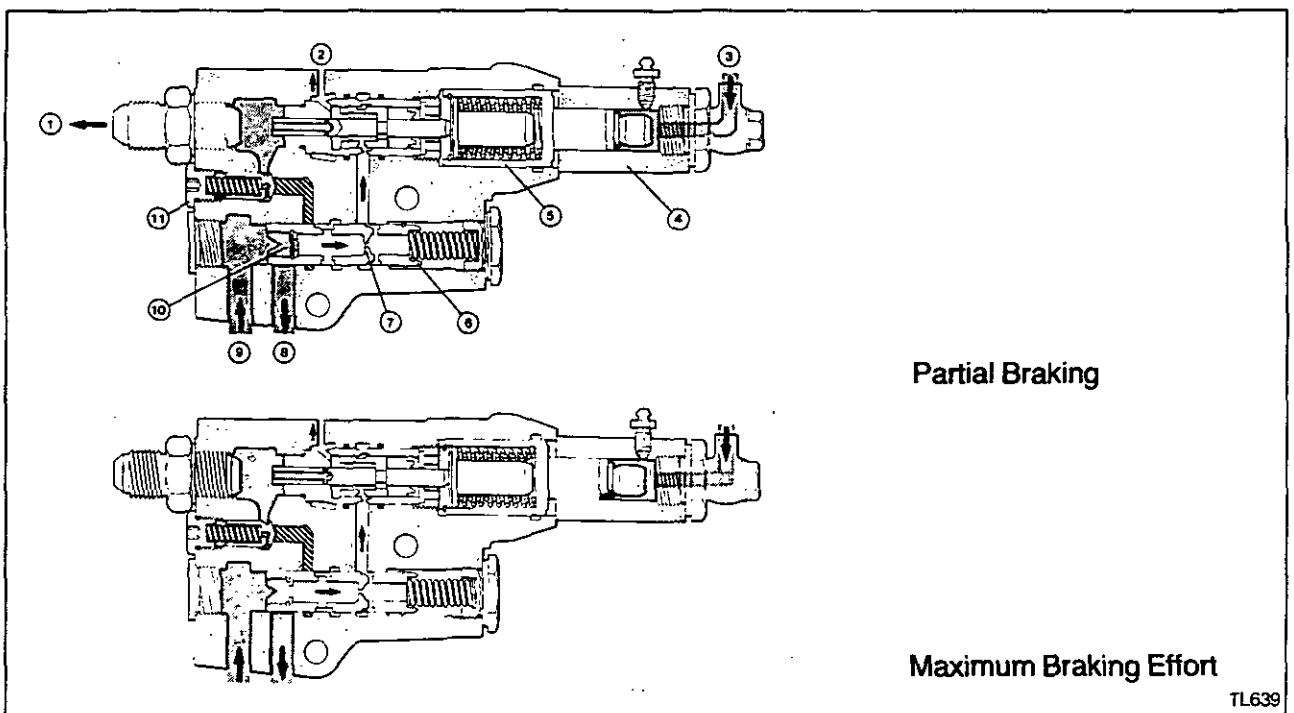

Figure 10. Trailer Brake Valve
3. Partial Braking. (Figure 10).
4. Maximum Braking Effort. (Figure 10).